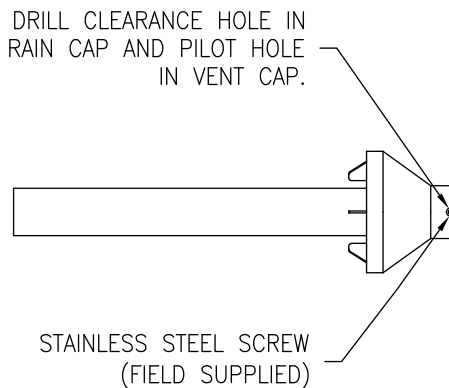

Figure 21. Rain Cap to Small Vent Pipe Assembly
- b. Cement rain cap to smaller diameter pipe. (See Figure 21).
- Cement rain cap to smaller diameter kit pipe. (See Figure 21).